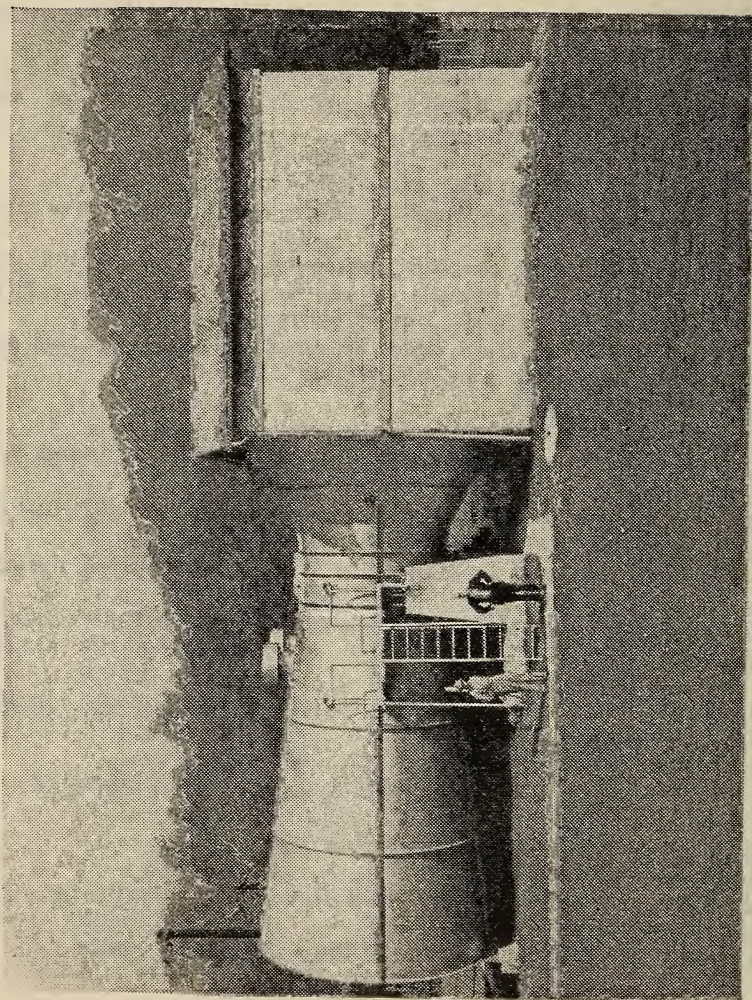

FIGURE 38.—Ventilating fans should be of adequate size and capacity to ventilate the mine properly.
- A. A mechanically operated fan. (See fig. 38.)